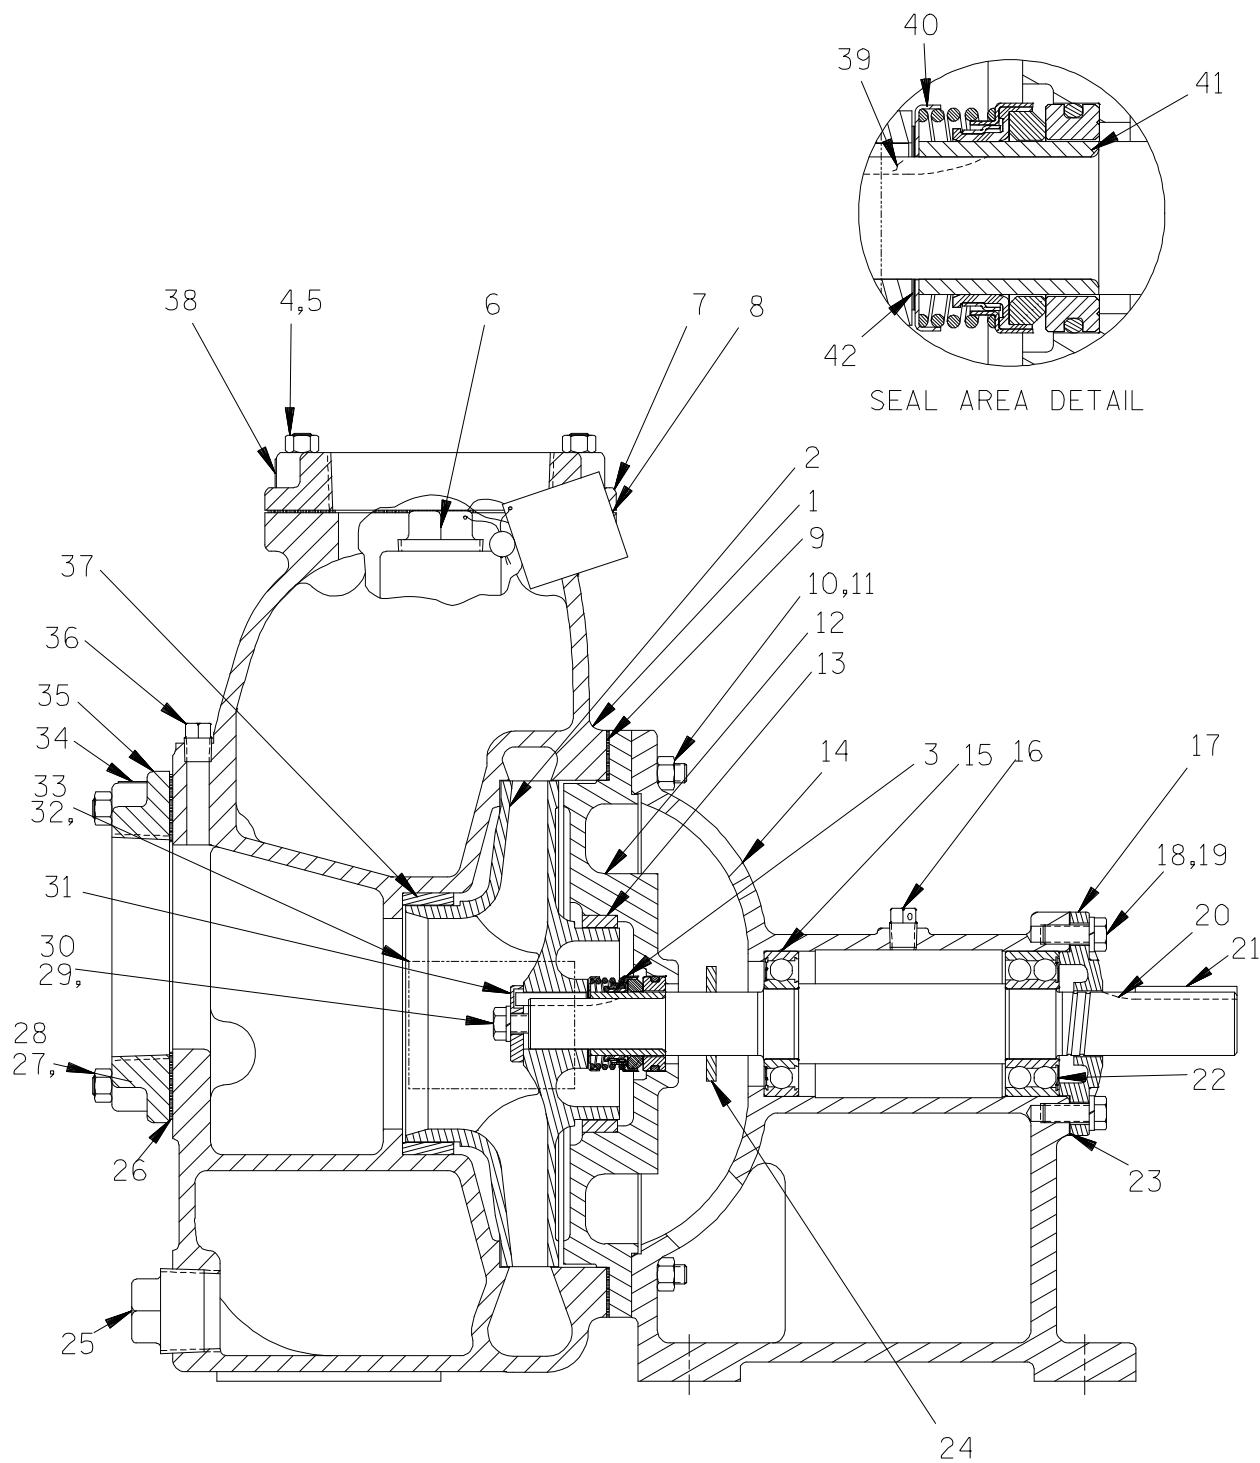

Figure 1. Pump Model 04C52-B
This pump requires little service due to its rugged, minimum-maintenance design. However, if it becomes necessary to inspect or replace the wearing parts, follow these instructions which are keyed to the sectional view (see Figure 1) and the accompanying parts list.
**(Figures 1 and 3)**